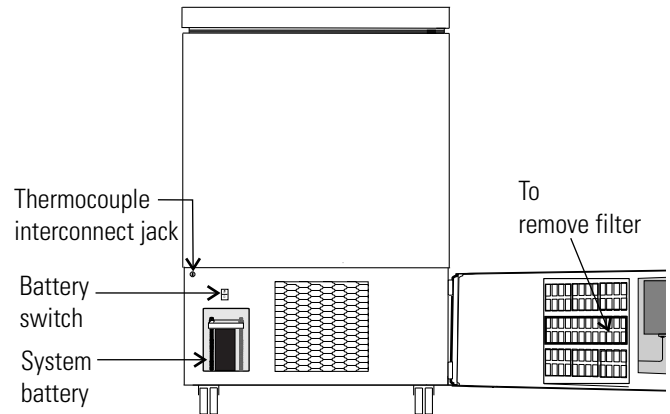

Figure 5-2. 3 cu ft Component Locations
2. Locate the battery power switch (Figure 5-2). Turn the battery power switch to the Off position (O).
3. Remove the two nuts securing the battery bracket. See Figure 5-2.
3 cu ft Models (Figure 5-2):